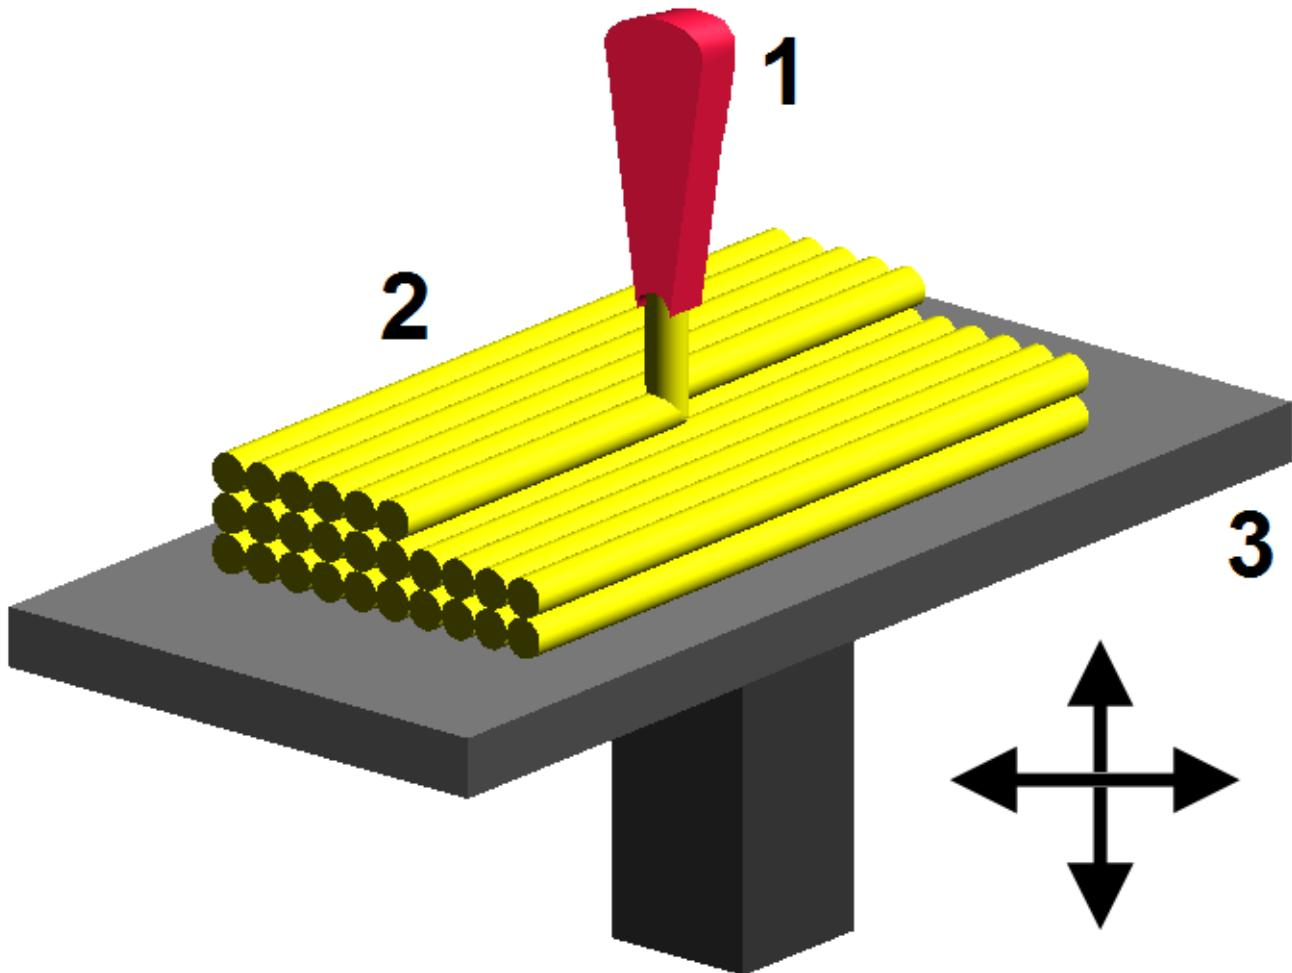

Figure 2. How FDM Printing Works (Source: Wikimedia.com)
- **Fused deposition modeling (FDM).** This is the method that people are most familiar with; it's what many off-the-shelf printers employ. I often call it the "hot-glue gun approach," as the 3-D printer is essentially acting as a very precise hot-glue gun. The reference design mentioned earlier is based on an FDM printer, and an example system diagram is available here. In this method (example of how it works shown in Figure 2), a material (often a thermoplastic) is taken and extruded through a heated nozzle onto a flat surface, where the material then cools and hardens again. The nozzle has the ability to move in the X, Y and Z directions, allowing for the creation of a 3-D object. Many different types of materials are used, but the most popular are thermoplastics such as acrylonitrile butadiene styrene (ABS) and polylactic acid (PLA).